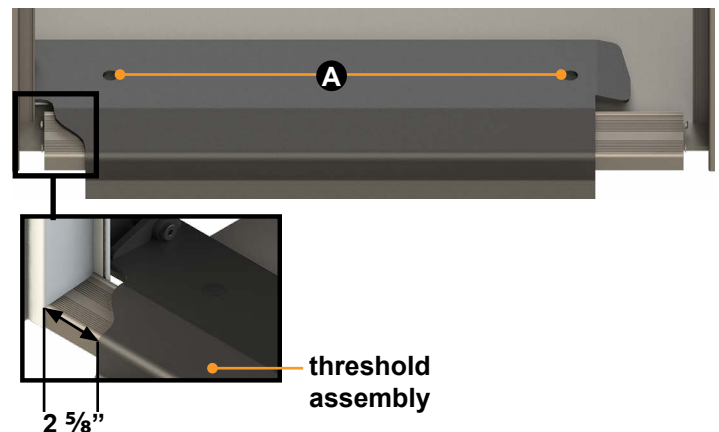

Fig.12
1. Place the upgraded SolidStep back into the doorframe in the extended position (**Fig.12**).
2. Verify with a tape measure that the assembly is 2 5/8" offset (**Fig.12**) from the left-hand door jamb. Measure the widest gap between door jamb and threshold.